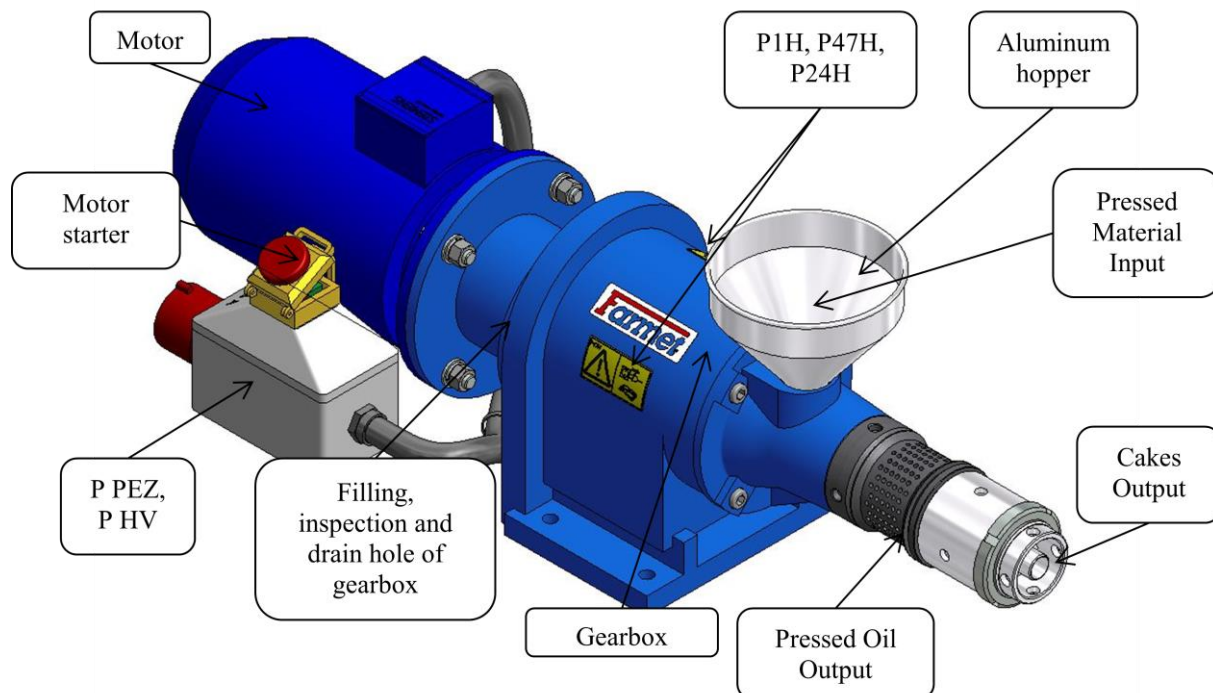
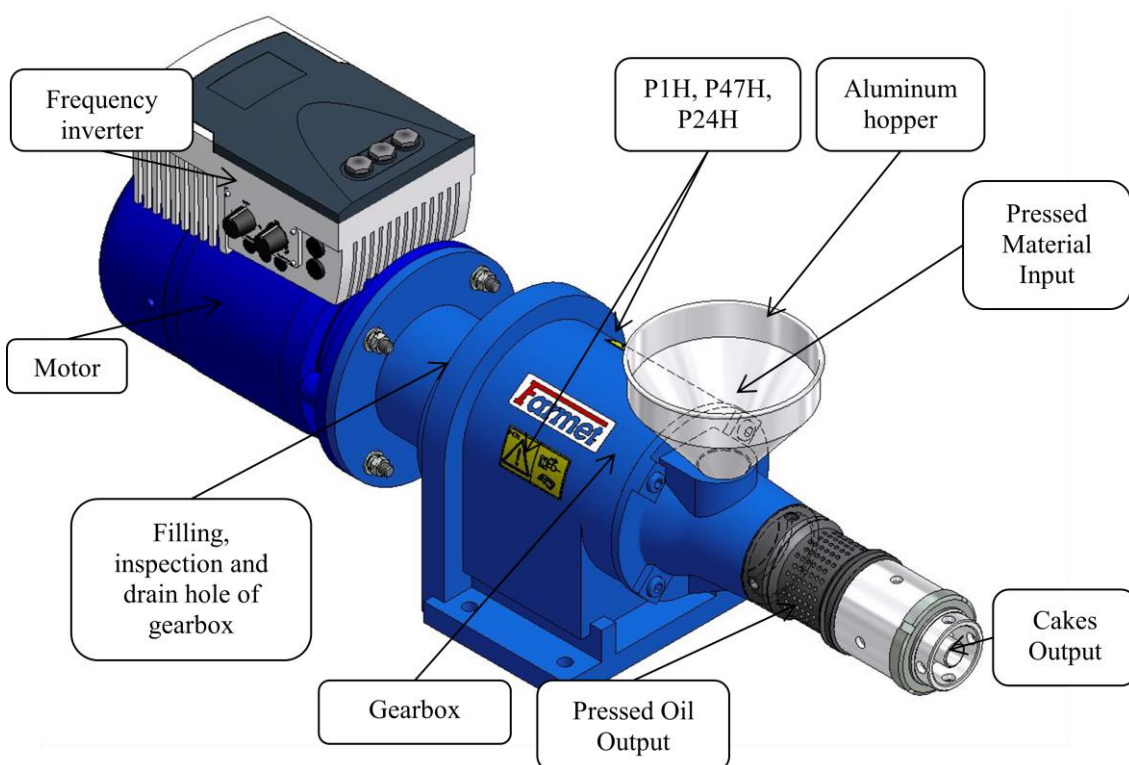

Figure 1 - UNO 1f, 3f
Figure 2 - UNO FM
- The position, appearance and exact meaning of work safety labels on the Equipment are given in the following table (Table 3) and picture (Figure 1, Figure 2).